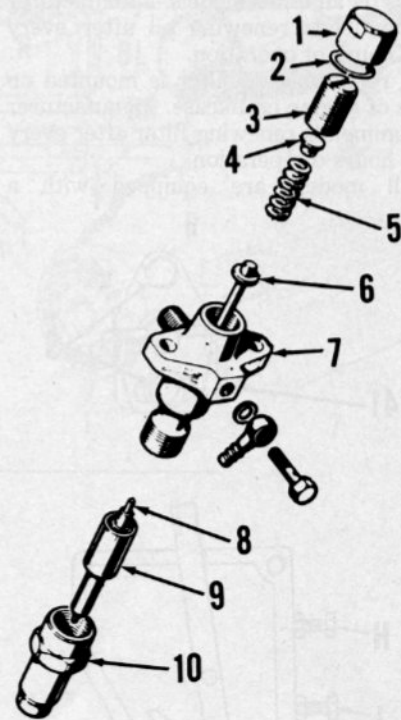

Fig. L5-6—Exploded view of injector.
Opening pressure with a new spring (5 - Fig. L5-6) should be 21.6-22.5 MPa while opening pressure with a used spring should be 20.6-21.6 MPa. Opening pressure is adjusted by turning adjuster (3). Valve should not show leakage at orifice spray holes for 10 seconds at 19.1 MPa.
OVERHAUL. Refer to exploded view in Fig. L5-6 and disassemble injector. Thoroughly clean all parts in a suitable solvent. Clean inside orifice end of nozzle tip with a wooden cleaning stick. The orifice spray holes may be cleaned by inserting a 0.28 mm cleaning wire. When reassembling injector, make certain all components are clean and wet with clean diesel fuel oil. Tighten nozzle nut (10) to 49 N·m.